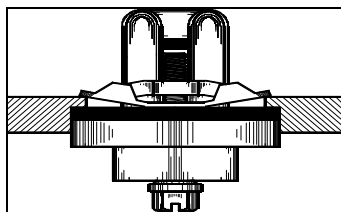

Figure 3 – Heater Tightened In Block
7. Tighten the locking screw clockwise to a **maximum torque of 2.26-2.82 Nm (20-25 in. - lbs.)**. (Fig.3)